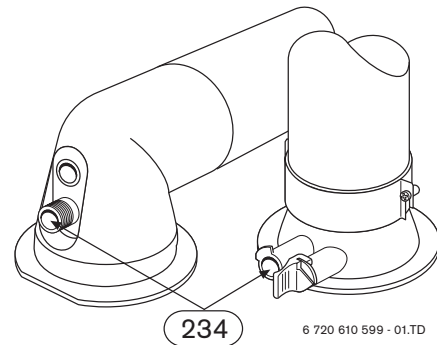

Fig. 42
- ▶ Switch on the appliance at the master switch (I).
- ▶ Unscrew sealing plug from flue gas testing point (234). Refer to fig. 42.